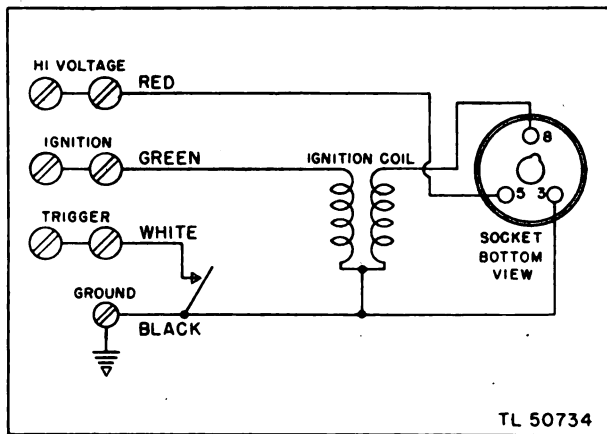
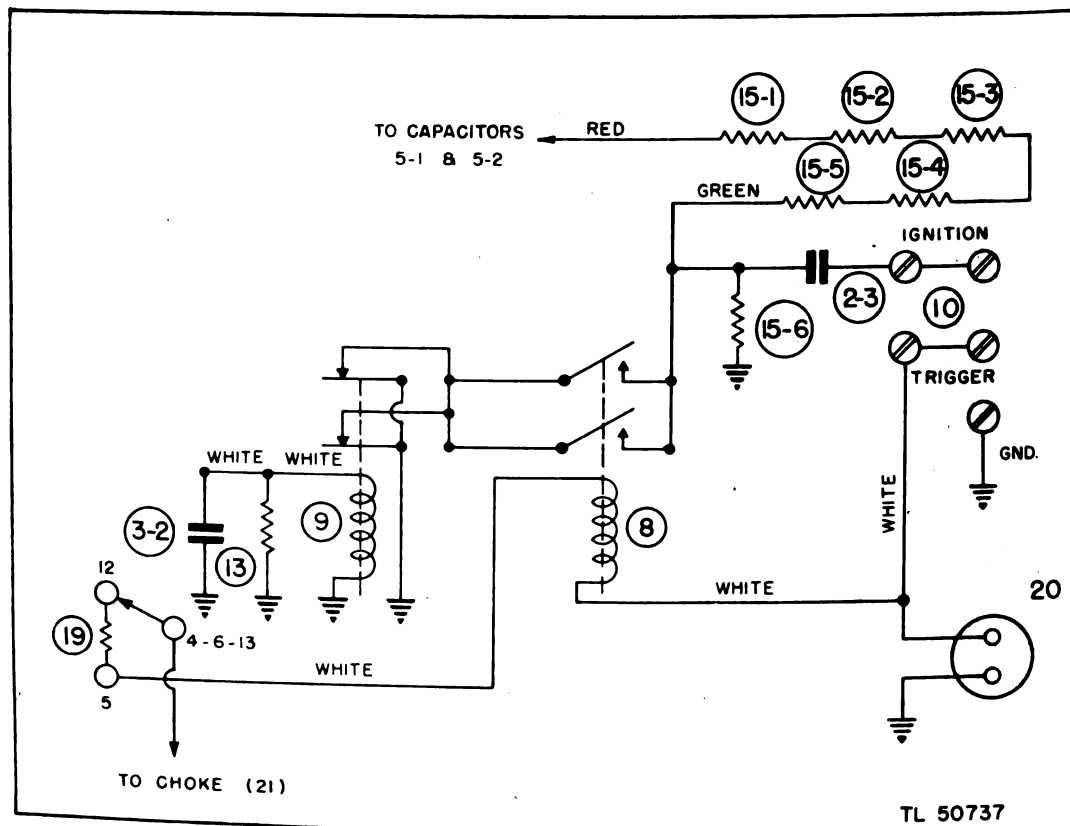

Figure 16. Identification lamp circuit.
Figure 19. Timing and trigger circuit, Voltage Converter PP-50/VVX-1X.
(2-3) is shorted to ground, an impulse of current passes through the primary of the lamp ignition coil (fig. 16). The high voltage produced on the secondary of the ignition coil ionizes the gas in the lamp. The charge on the high-voltage capacitors (5-1) and (5-2) then discharges through the lamp, causing a brilliant flash of light.
c. *Timing and Trigger Circuit (fig. 19).* (1) Six 200,000-ohm, 1-watt bleeder resistors (15-1), (15-2), (15-3), (15-4), (15-5), and (15-6) pass current and charge capacitor (2-3) to approximately 300 volts d-c. The capacitor (2-3) is in series with the primary of the ignition coil in the identification lamp. When this capacitor (2-3) is shorted to ground, an impulse of current passes through the primary of the lamp ignition coil (fig. 16). The high voltage produced on the secondary of the ignition coil ionizes the gas in the lamp. The charge on the high-voltage capacitors (5-1) and (5-2) then discharges through the lamp, causing a brilliant flash of light.
(2) Timing of the ignition circuit is accomplished as follows: immediately after a flash, the high-voltage capacitors (5-1) and (5-2) are dis-